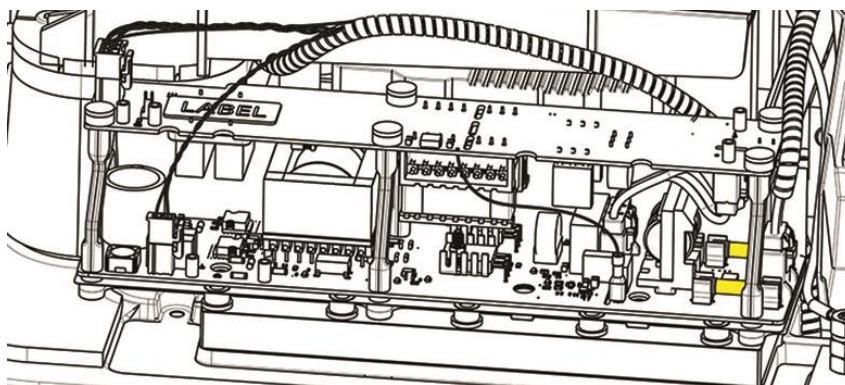

Figure 3 – DC-DC Fuse Location
3. Access is limited to the rear-most fuse. It is suggested to remove the DC-DC to gain access to the fuses. Refer to Figure 3 – DC-DC Fuse Location.